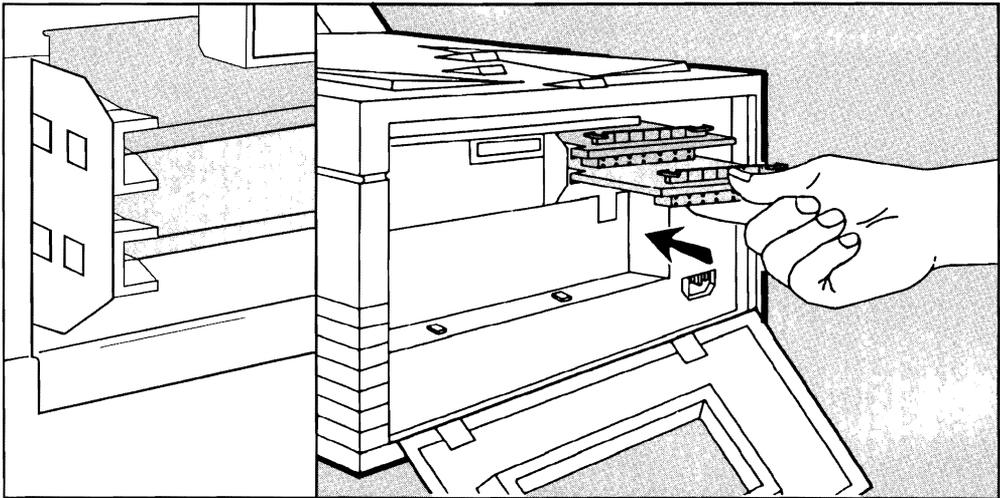

Figure F-7. Install the Second Board
10. If you are installing a second board, insert it below the first board in the same manner (see figure F-7). The second board connects to the previously installed board. Be sure to **firmly** push against the green plastic area to properly seat the board pin connector. When the board is fully seated, the green tabs on the memory board do not move.